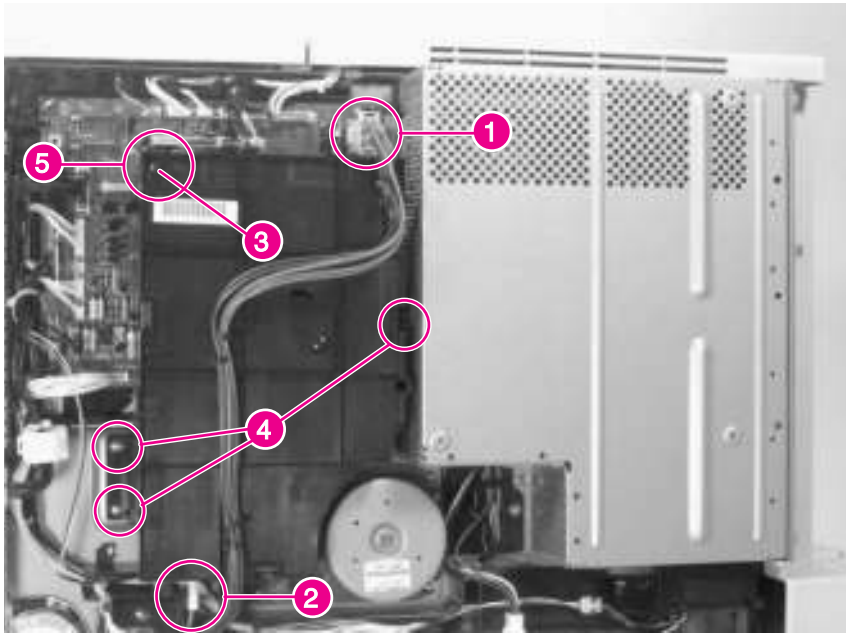

Figure 6-49 High Voltage Power Supply
- 2 Remove the HVPS (see figure 6-49 on page 215).
- 3 Remove the High Voltage Power Supply (see figure 6-49 on page 215).
- High Voltage Power Supply (HVPS) (see figure 6-49 on page 215)
- 2 Unplug the cable from the LVPS to the DC Controller PCA (figure 6-49, callout 1), and move it out of the way.
- 3 Unplug the connector from the bottom of the HVPS (figure 6-49, callout 2).
Do NOT remove the screw indicated in Figure 6-49, beneath the null symbol
- 4 Remove 1 self-tapping screw (figure 6-49, callout 3) and 3 screws (figure 6-49, callout 4).
Make sure that the plastic alignment pin (figure 6-49, callout 5), the connector pins, and the high voltage contacts are properly aligned before replacing the screws.